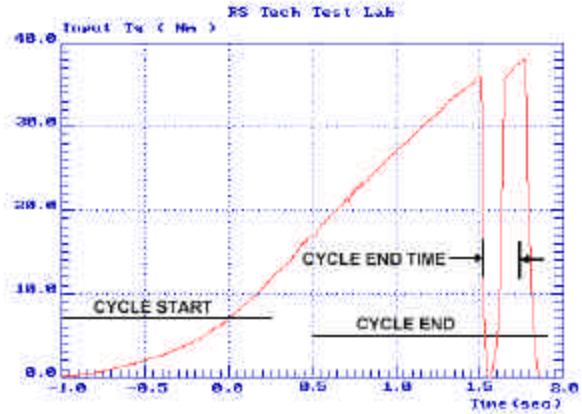

Figure 3. Cycle End Time
- ▲ **Cycle End Time** is the amount of time that the torque level must remain below Cycle End for data recording to stop (this is used for tool verification when multi-stage tightening strategies are used. Refer to Figure 3.